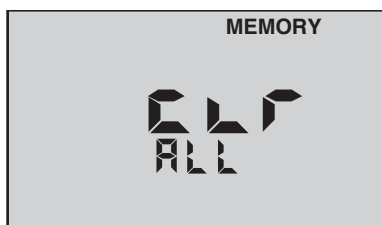

Figure 10
6. To clear **all** records: After pressing , scroll down. "CLR ALL" will be displayed (see Figure 10).